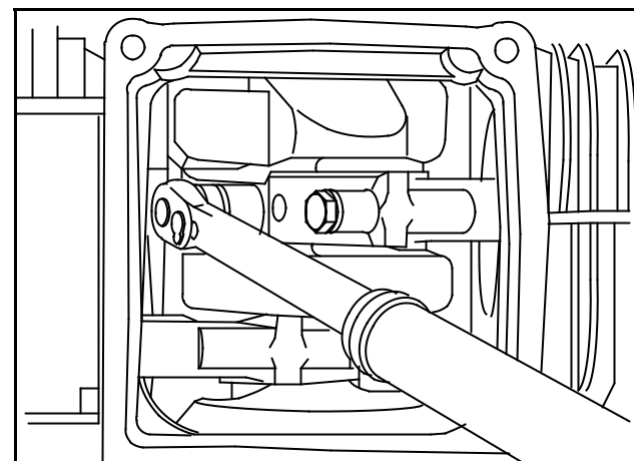

Fig. 9 – Torque Connecting Rods
1. Torque connecting rod screws 190 in. lbs. (21.5 Nm), Fig. 9.
2. Rotate crankshaft two (2) revolutions to check for binding.
**NOTE:**Failure to use a torque wrench can result in loose connecting rods causing break-age, or tight connecting rods causing scoring, Fig. 9.